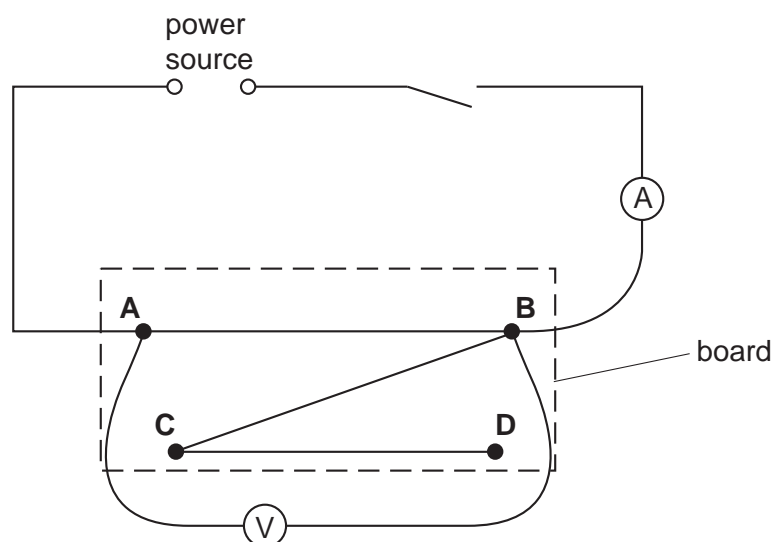

Fig. 2.1
- (iv) Approximately 150 cm of wire, taped to a board as shown in Fig. 2.1, such that the distances **AB** = **BC** = **CD** = 50 cm. The wire may be bare nichrome (diameter 0.45 mm (26 swg) or 0.38 mm (28 swg)) or bare constantan (0.32 mm (30 swg)).
- (v) Four suitable terminals attached to the wire so that connections can be made to the circuit shown in Fig. 2.1 at positions labelled **A**, **B**, **C** and **D**.
- (vi) Sufficient connecting leads to set up the circuit shown in Fig. 2.1, plus one extra connecting lead.
1. The circuit is to be set up for the candidates as shown in Fig. 2.1.
Reconnect the circuit as shown in Fig. 2.1. Check that the output of the power source is close to its original value.